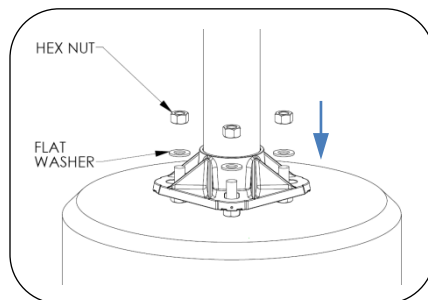

Fig. 2 – Install pole
1. Install pole with hex nuts and washers, see Fig. 2.